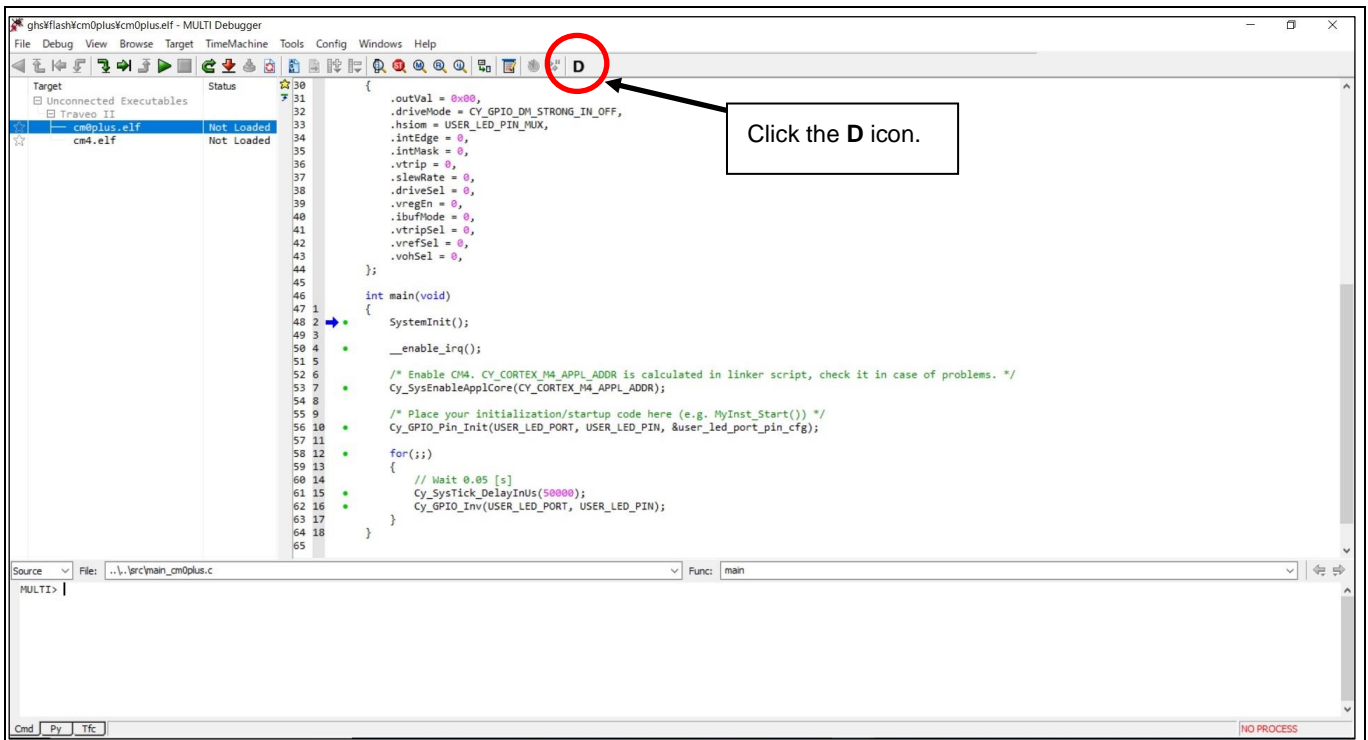

Figure 16 Debug the Project of SDL Project
2. To enable the SDL project to detect the debugger script, click the **D** icon as shown in **Figure 16**.